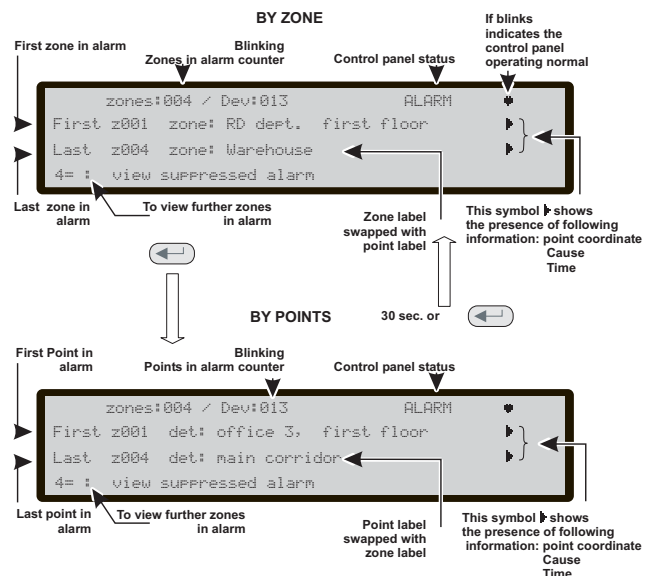

Figure 12 DISPLAY: ALARM STATUS.
- message on fire control panel/Repeater Display (see Figure 12).